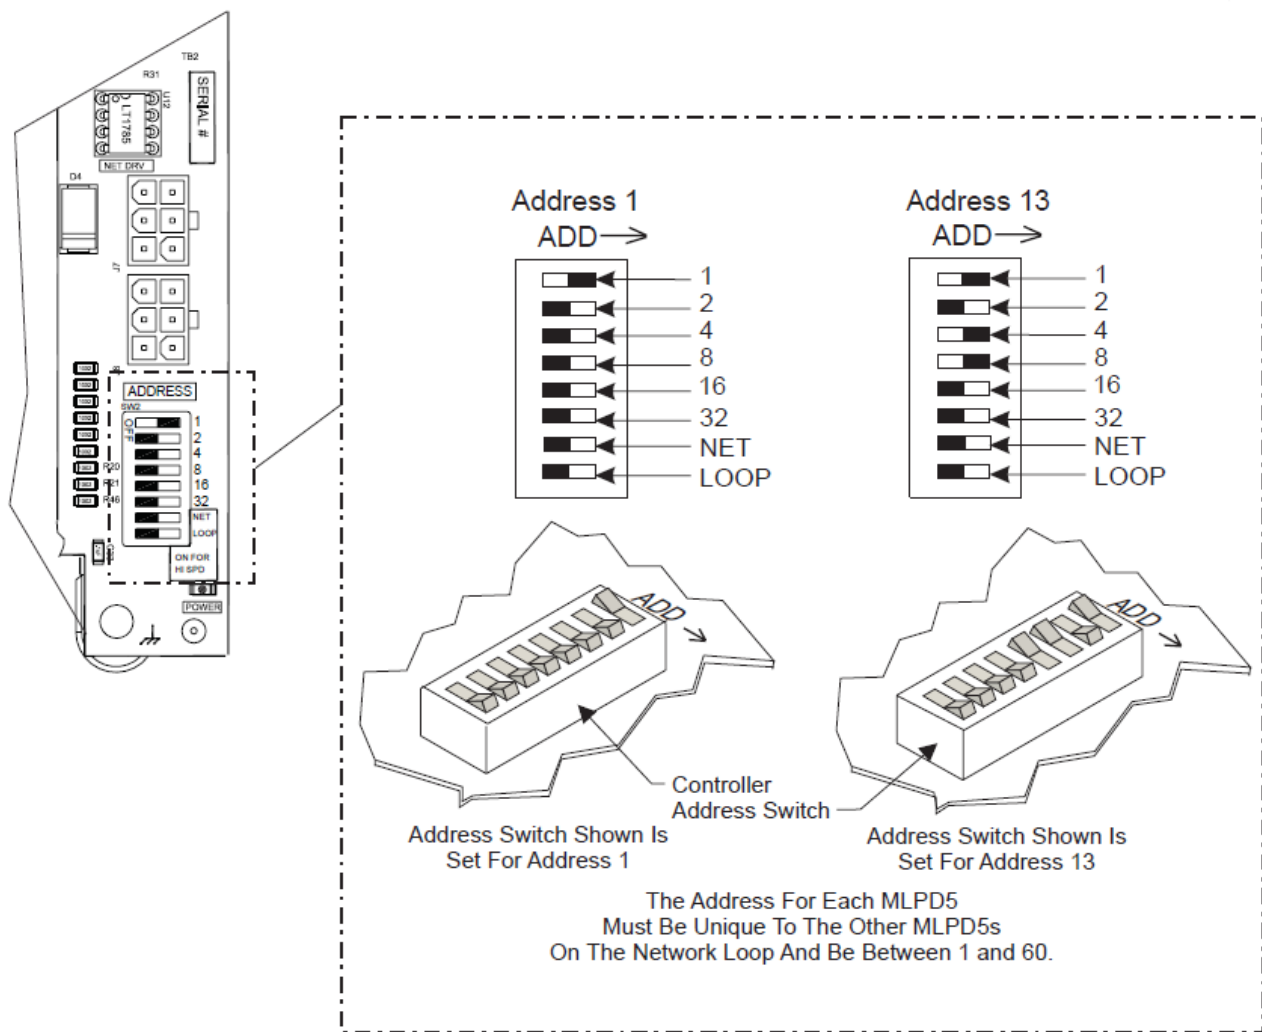

Figure 2: Address Dipswitch Setting
- Network communications are RS-485 type operating at 19,200 or 115,200 baud. Local communications are also RS-485 type and operate at 9600 or 57,600 baud. See Figure 2.